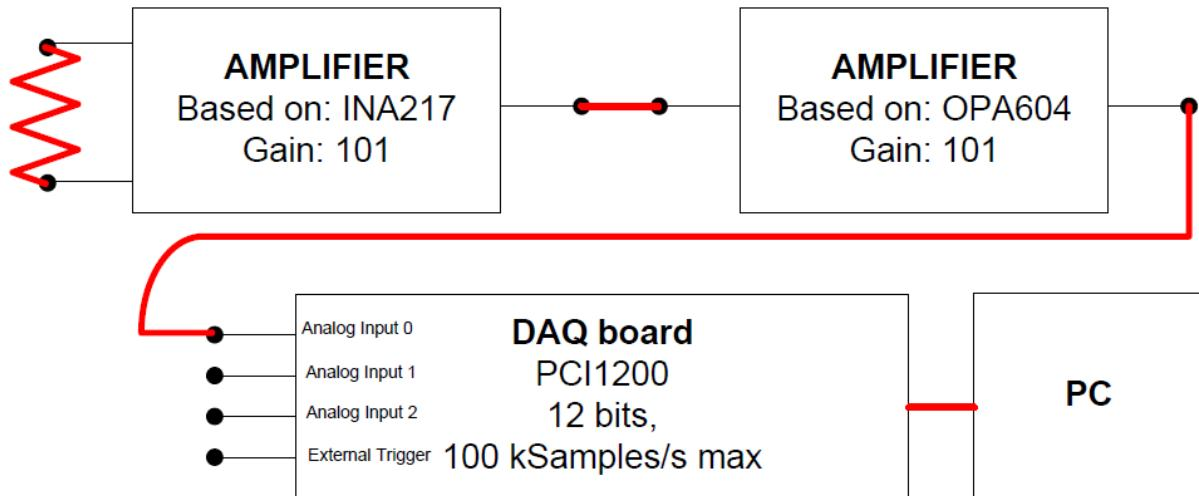

Figure 8 : Block diagram to show the required connections for a noise measurement with the amplifiers.
We will study resistors as a source of intrinsic noise. That is an important issue since the corresponding thermal noise significantly limits the sensitivity (i.e. the minimum detectable signal variation) of any sensor with resistive elements (such as several magnetic sensors, inductive sensors, strain sensors, chemical sensors, light sensors, temperature sensors, etc. etc.). In this framework, the system adopted to measure the noise coming from different resistors is depicted in Figure 8 and the corresponding noise sources are the amplification chain and the analog-to-digital converter (See the appendix for circuit details).
Introducing an amplification chain is essential to make the thermal noise voltage produced by the resistors measureable. Accordingly, we are going to connect two amplification stages between the resistor and the PC (Figure 8). The two amplifiers introduce additional noise, and the corresponding contributions have to be taken into account (and measured).
1. Connect the resistance as shown in Figure 8.
3. Choose a set of resistances in the range of $[50 \Omega - 10 M\Omega]$ so as to track a complete characteristic $S_{N,V}^V (R)$. Save the measurements to have data for your report.